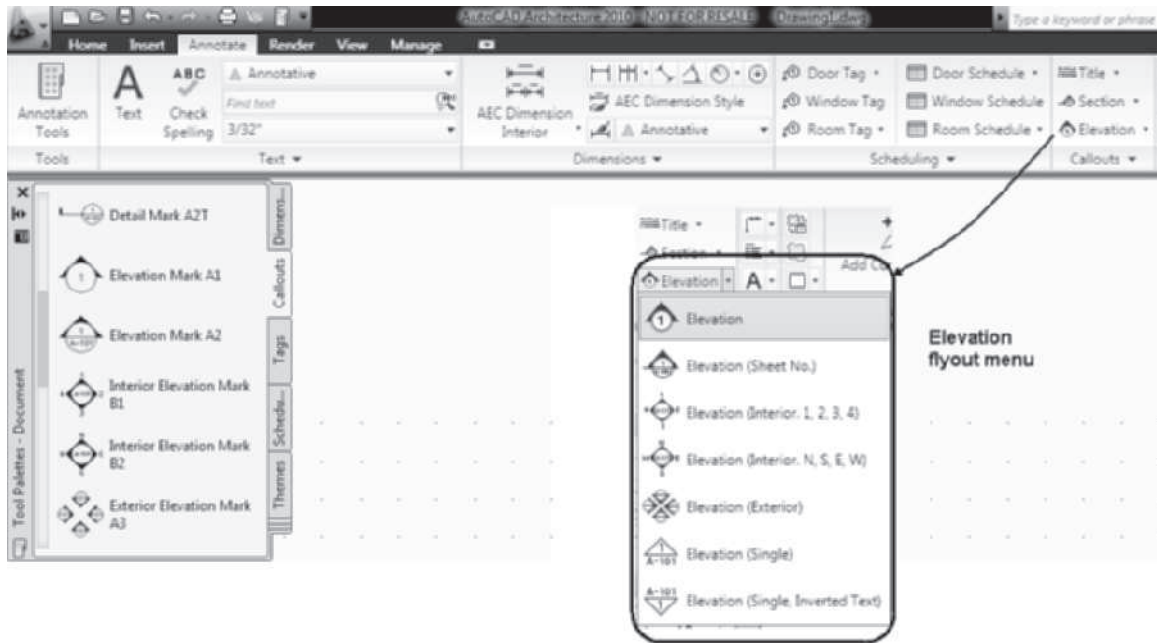

FIGURE 12.3 Callouts tab of the Document tool palette set
The model View drawing can include all levels and divisions of the building. After a model View drawing is created, you can open the drawing and place a callout mark. The callout tools, located on the **Callouts** palette of the **Document** palette set and shown in Figure 12.3, include tools for creating the elevation or section within the model drawing or creating additional View drawings for the elevations. The elevation tools of the Callouts palette are also included on the Callout panel of the Annotate tab in the ribbon and listed below:
3. Select **Elevation Mark A1** from the **Callouts** tool palette or the Elevation flyout menu of the Callouts panel in the Annotate tab shown in Figure 12.3 and respond to the workspace prompts as shown below: